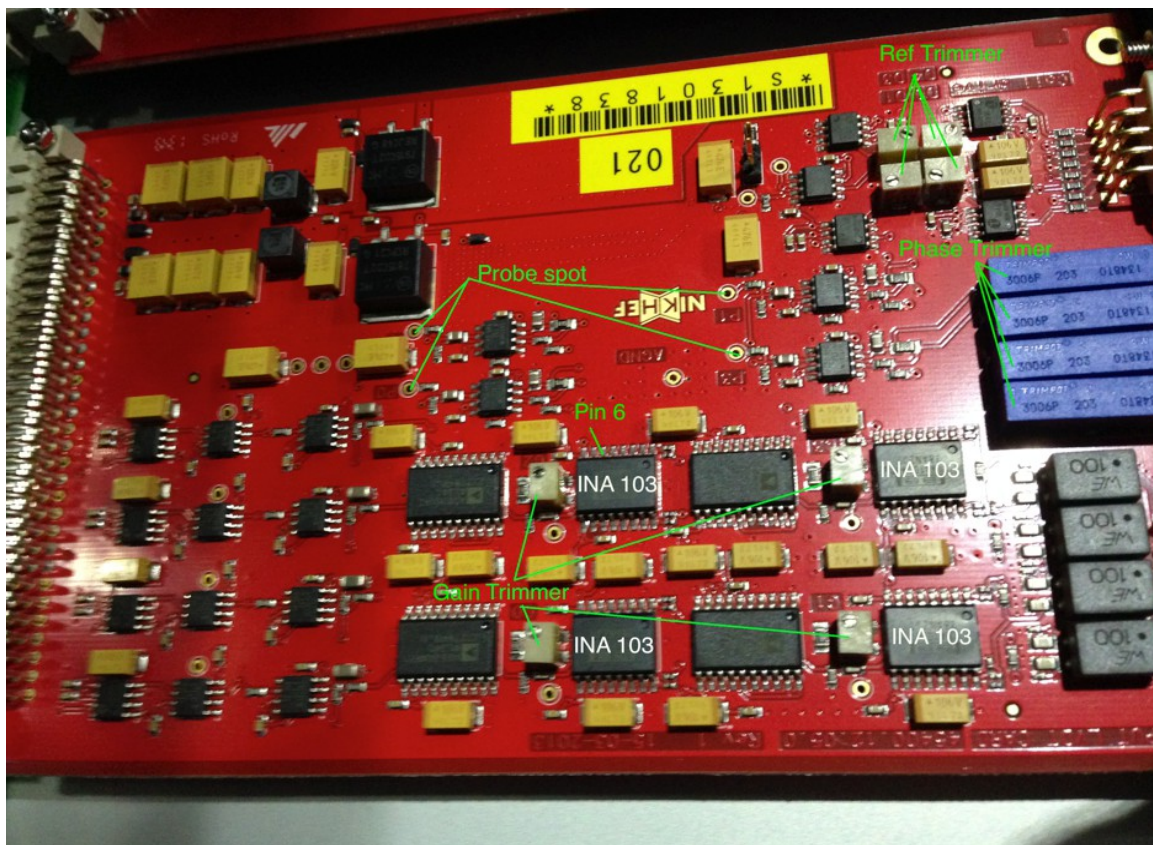

Figure 1: LVDT Board
1. Ref Trimmer: This board gets the excitation signal from the LVDT Main Board and distributes it via circuit to the 4 channels. By turning the "Ref Trimmers" we are able to increase or decrease the amplitude of the signal sent to each primary coils of the LVDTs. Adjusting this parameter will have an effect at the Output of the LVDT Main Board. Using a probe we can view the signals in the points P0-P3 (P0 for channel 0, P1 for Channel 1, etc). See figure 1.
So by turning the "Phase trimmers" we can shift the phase of the demodulation signal. And this trimmers are reachable from the front side of the rack. See figure 1.
3. Gain Trimmer: By adjusting the "Gain Trimmers" we can change the magnitude of the demodulated output signal. This means we can tune the voltage range to get a maximum dynamic range. Or in another words, we can set the V/mm of an LVDT being such that the full range of the ADC is used in the desired range or in the constrained range. It is possible to measure the value of the gain resistor by using a multimeter between the pin6 fo the IC INA103 and the soldering point ate the "Gain Trimmers", which is at the side of the IC AD630ARZ (the side of the trimmer with 1 and not 2 soldering points). See figure 1.